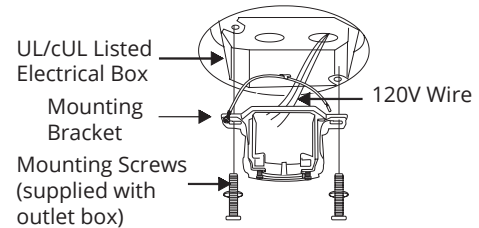

FIG. 7
3. Pass the 120-volt supply wires through the center hole in the ceiling mounting bracket as shown in (FIG. 7).
4. Secure the mounting bracket to the ceiling outlet box with the screws and washers provided with your outlet box (FIG. 7).